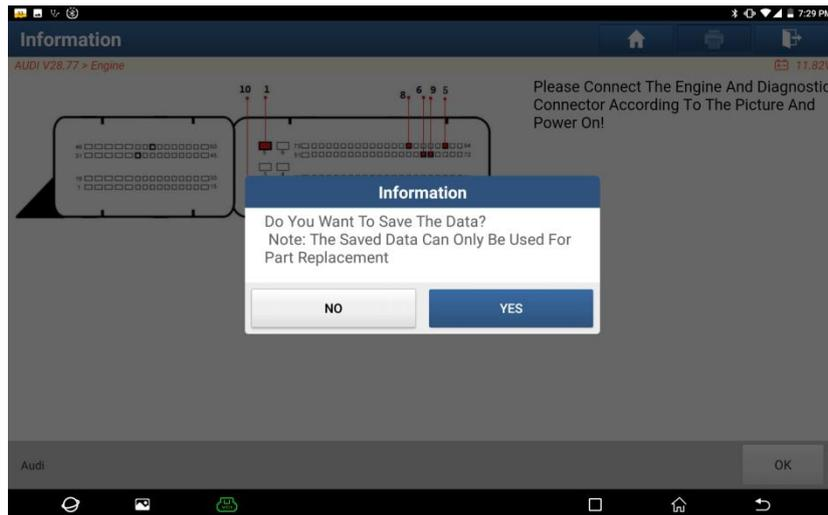

Figure 15
3.2.1.11 After reading completed, the data can be saved to a file, and it can be directly loaded when entering in the next time, as shown in Figure 15.